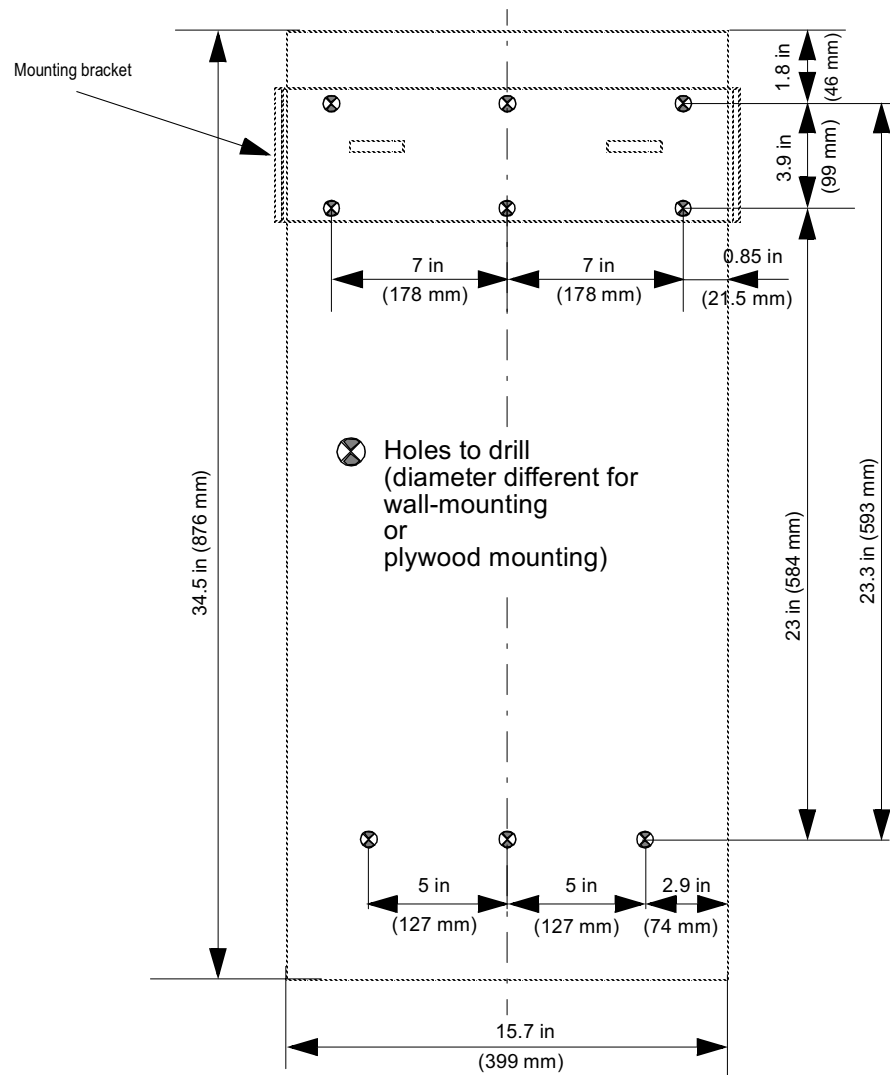

Figure 4-2 Drilling template for wall-mounting/plywood-mounting
- Step 3 Use Figure 4-2 to make a drilling template for the nine mounting holes. Level and attach the drilling template to the wall/plywood using tape or thumbtacks and mark the positions of the mounting holes.